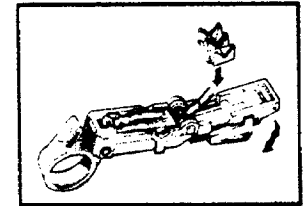

Figure 11
**To change V-block.** Open tool fully (Fig. 11) until the springs holding V-block release. Pull out V-block and replace with selected V-block. **NB!** With white V-block, you must position springs in holes.